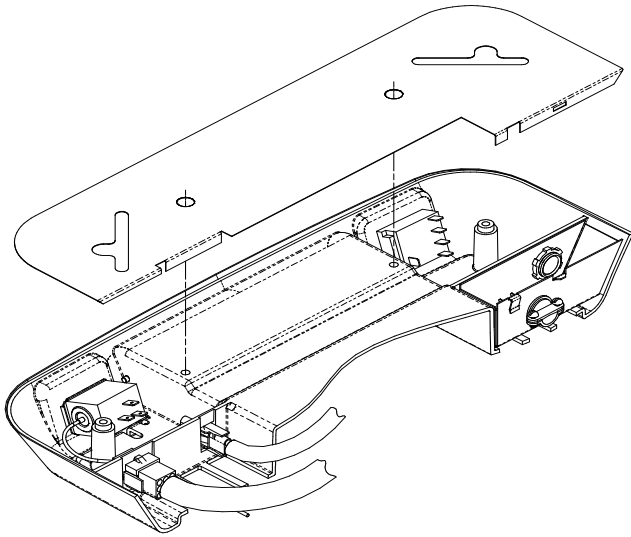

FIGURE 7
Plug the heater cord into the 2 position receptacle (See Figure 7).
- E. Plug the roof top air conditioner electrical conduit into the 9 position receptacle located in the thermostat side of the ceiling assembly (See Figure 7).
- H. Place the metal control box shield over the thermostat, switch and field wiring boxes. Make certain that all wires are pushed into the control boxes or laying in the wireway between the thermostat and switch boxes and will not be pinched by the control box shield. Control box shield is properly installed when the two holes in the shield are aligned with the two screw holes in the ceiling assembly chute (See Figure 7).
- J. The ceiling assembly shroud is curved to contour to a crowned ceiling. If installation is to a flat ceiling and gaps are present on the sides of the shroud, insert the four optional 3/4 inch screws (provided) through the mounting posts and secure them to the mounting frame above (See Figure 7, 8 & 9 for screw locations).